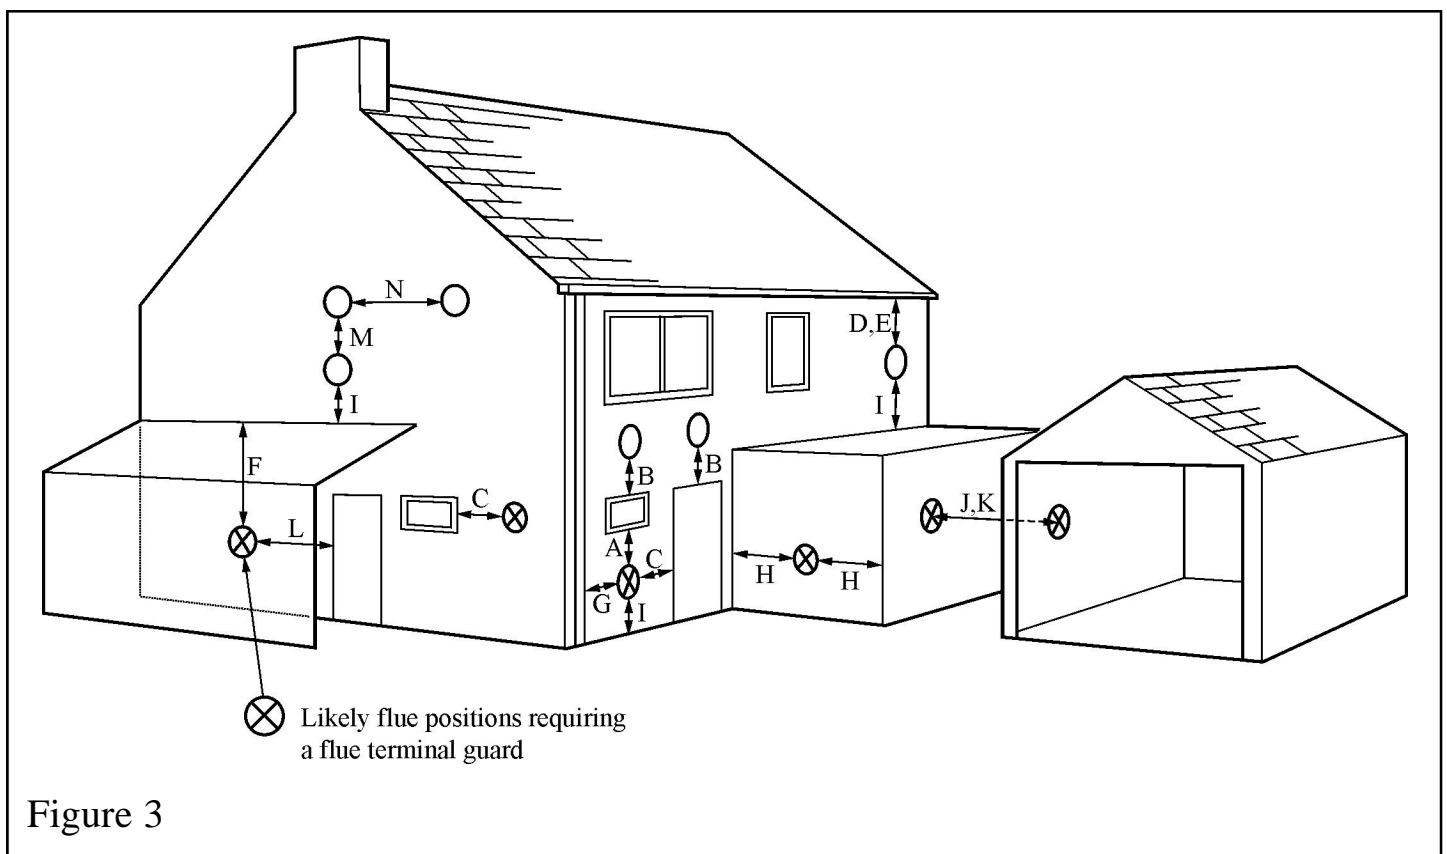

Figure 3
3.2.1 The flue terminal should be located so that the wind can blow freely across it at all times and where any blockage due to leaves, snow, etc. is unlikely. The minimum allowable distances from the terminal are shown in figure 3.
Figure 3 continued